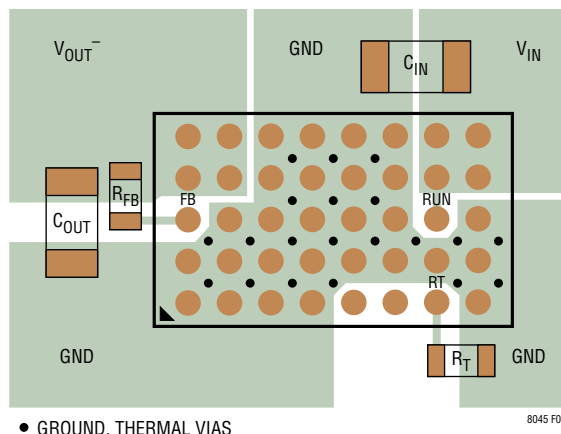
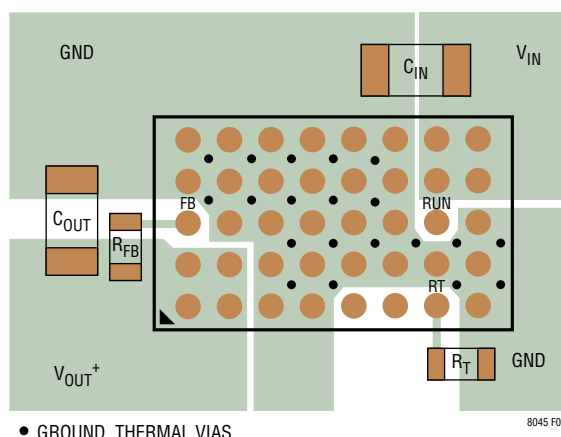

Figure 2. Layout Showing Suggested External Components, GND Plane and Thermal Vias for the Inverting Topology Application
Figure 3. Layout Showing Suggested External Components, GND Plane and Thermal Vias for the SEPIC Topology Application
Most of the headaches associated with PCB layout have been alleviated or even eliminated by the high level of integration of the LTM8045. The LTM8045 is nevertheless a switching power supply, and care must be taken to minimize EMI and ensure proper operation. Even with the high level of integration, you may fail to achieve specified operation with a haphazard or poor layout. See Figure 2 for the suggested layout of the inverting topology application and Figure 3 for the suggested layout of the SEPIC topology application. Ensure that the grounding and heat sinking are acceptable.
6. Use vias to connect the GND copper area to the board's internal ground planes. Liberally distribute these GND vias to provide both a good ground connection and thermal path to the internal planes of the printed circuit board. Pay attention to the location and density of the thermal vias in Figures 2 and 3. The LTM8045 can benefit from the heat sinking afforded by vias that connect to internal GND planes at these locations, due to their proximity to internal power handling components. The optimum number of thermal vias depends upon the printed circuit board design. For example, a board might use very small via holes. It should employ more thermal vias than a board that uses larger holes.